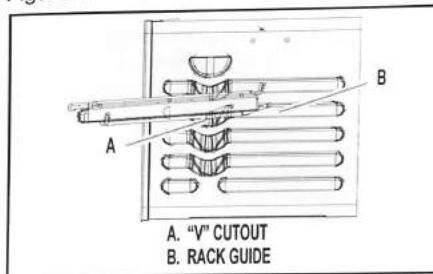
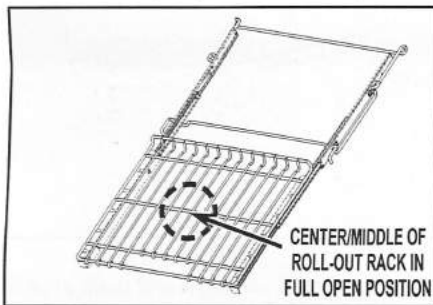

FIGURE 4
FIGURE 6
13. Raise rack assembly to flat position and gently push to the back of the oven until the back edge of the sliding rail drops. See Figure 4.
15. With the roll-out rack in either position 5 or 3 (see Figure 4), extend rack to full open position. See Figure 6.